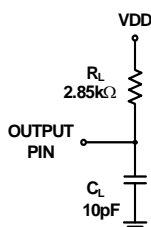

FIGURE 4. EQUIVALENT LOAD CIRCUIT
- During characterization, $t_{DISABLE}$ is measured from the release point with a 10pF load (see Figure 4) and the equivalent timing using the AD7440/450A loading (25pF) is calculated.